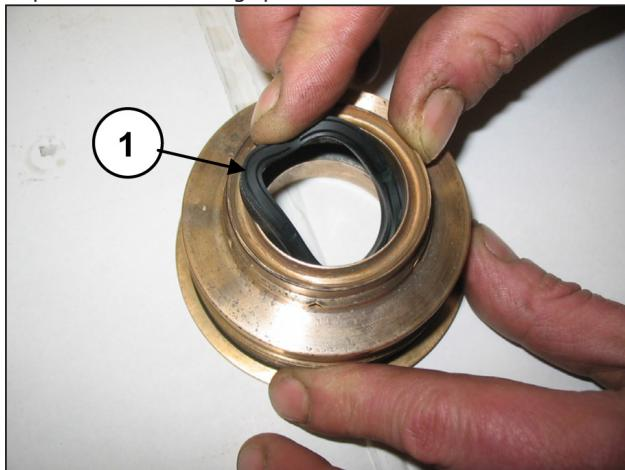

Fig. 174
Insert the low pressure seal in the KC seal support (pos. ①, Fig. 174) paying attention to the mounting direction which requires that the sealing lip be set forward (towards the head).